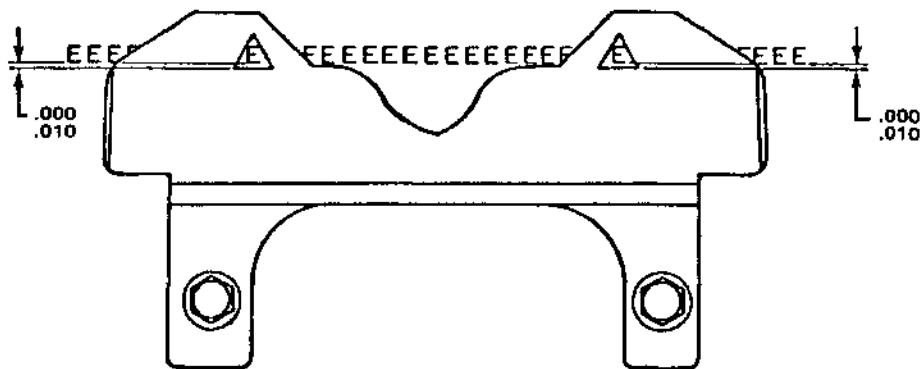

Figure 5-24 CARD GUIDE ALIGNMENT
- # Refer to Figure 5-24. Check the alignment of the card guide. As shown, the bottom lines of the printed E's must be even with the bottom edges of the triangular openings (A1) in the card guide (A) within .000" to .010" as shown. Make minor adjustments to the card guide height as required to achieve proper card guide positioning. See NOTE in subsection 5.4.4.3 step 2.